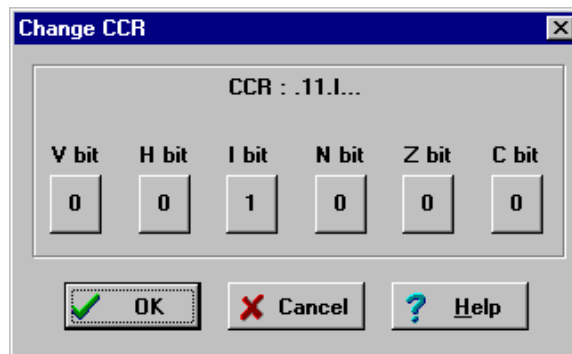

Figure 5-14. *Change CCR* Dialog Box
- To change the CPU accumulator (ACCA), HREG index register, XREG index register, and program counter (PC) values from the CPU08 window, double click on the value and enter the new value in the dialog box. Press OK to close the dialog box and save the new value.
- To change the CPU CCR values, double click the CCR value in the CPU08 window to open the *Change CCR* dialog box (see **Figure 5-14**). Change the H, I, N, V, Z, or C CCR bits by pressing the button below each to toggle condition code register bits between 1 (on) and 2 (off). Press OK to close the dialog box and save the values.